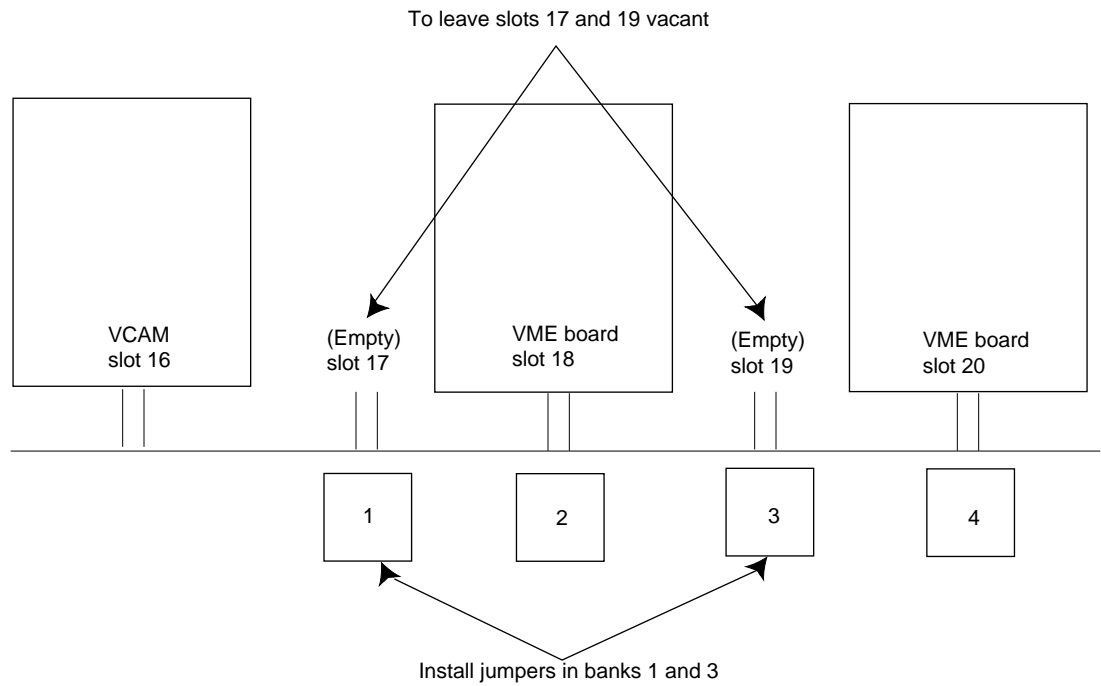

Figure E-10 Skipping a VME slot
- If you wish to skip over VME slots, for example, from the first VME slot over to the third VME slot, you must place jumpers in bank 2 (see Figure E-10).